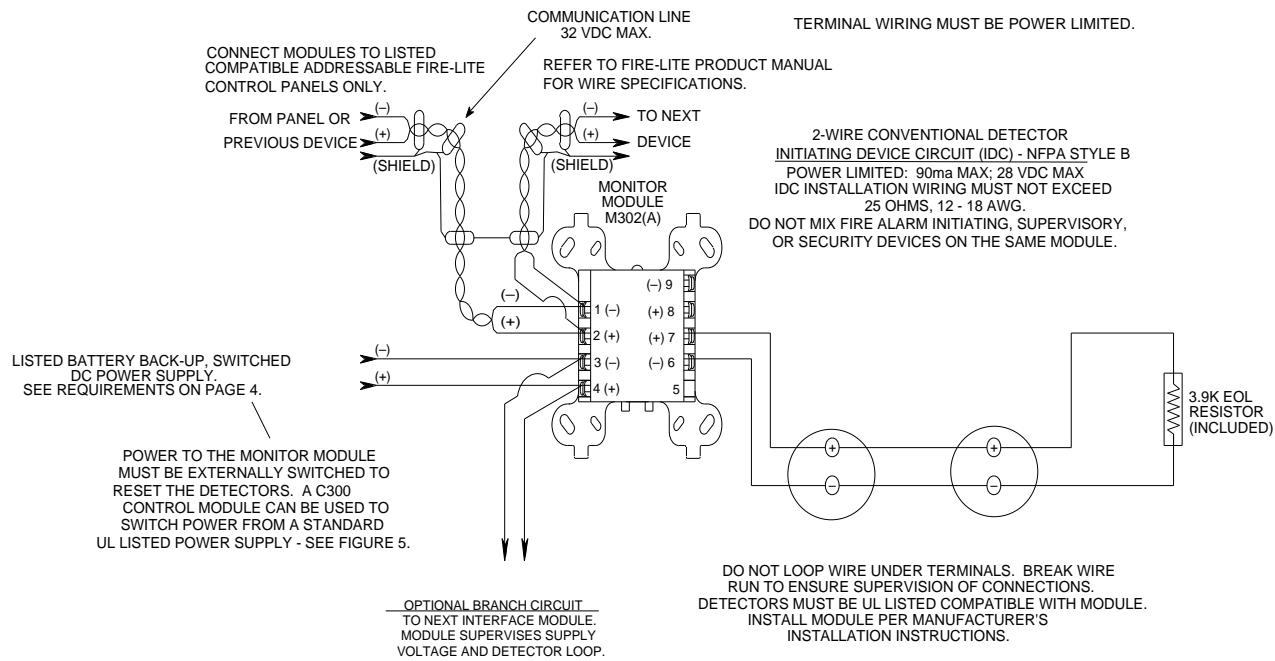

Figure 3. INTERFACE TWO-WIRE CONVENTIONAL DETECTORS, NFPA STYLE B
1. Install module wiring in accordance with the job drawings and appropriate wiring diagrams (Figures 3 – 5).